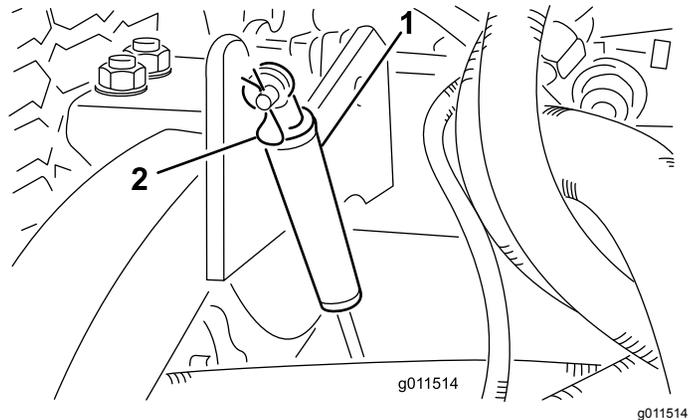

Figure 100
2. Remove the hairpin cotter securing the dampers to lift arms (Figure 100).